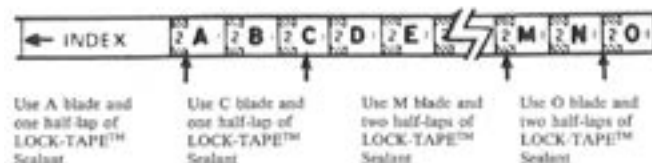
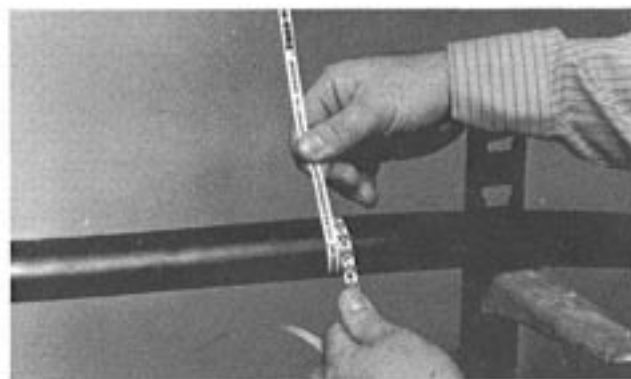

Figure 4 — CABLE Mea-SURE™ Tape
Figure 5 — Measuring Cable with Measuring Tape
B. It designates either one or two half-lapped layers of 1½" LOCK-TAPE™ Sealant to be wrapped around the cable. See Figure 4, Figure 5.
PLP® TIP: If the index line falls on the line between areas, proceed as if the index line had fallen immediately to the right of the indexed line. Refer to Figure 5.